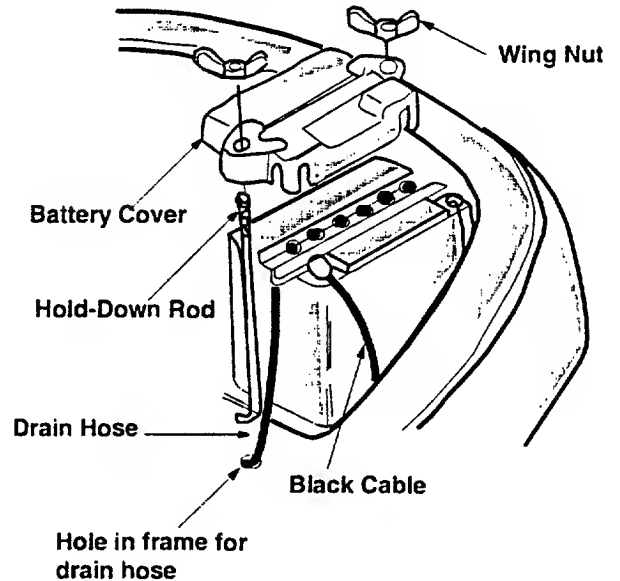

Figure 4
- Replace the cell caps on the battery. Make sure that the drain tube is attached and routed properly. Refer to Figure 4.
- Place the battery into the battery opening with positive terminal toward the rear of the unit. Make certain both the negative (black) cable and the positive (red) cable are routed up through the battery opening. See Figure 4.
- Attach the positive (red) cable to the positive terminal of the battery. See Figure 4. Secure with hex bolt and nut provided with the battery. Slide rubber boot over the positive terminal.
a hex bolt and nut provided. See Figure 4.
- Route the battery drain tube through the opening in the mower frame. See Figure 4.
- Pull up on the hold-down rods through the slot on the battery cover and insert one wing nut on each hold-down rod. Tighten the two wing nuts to secure the battery to the unit. See Figure 4.